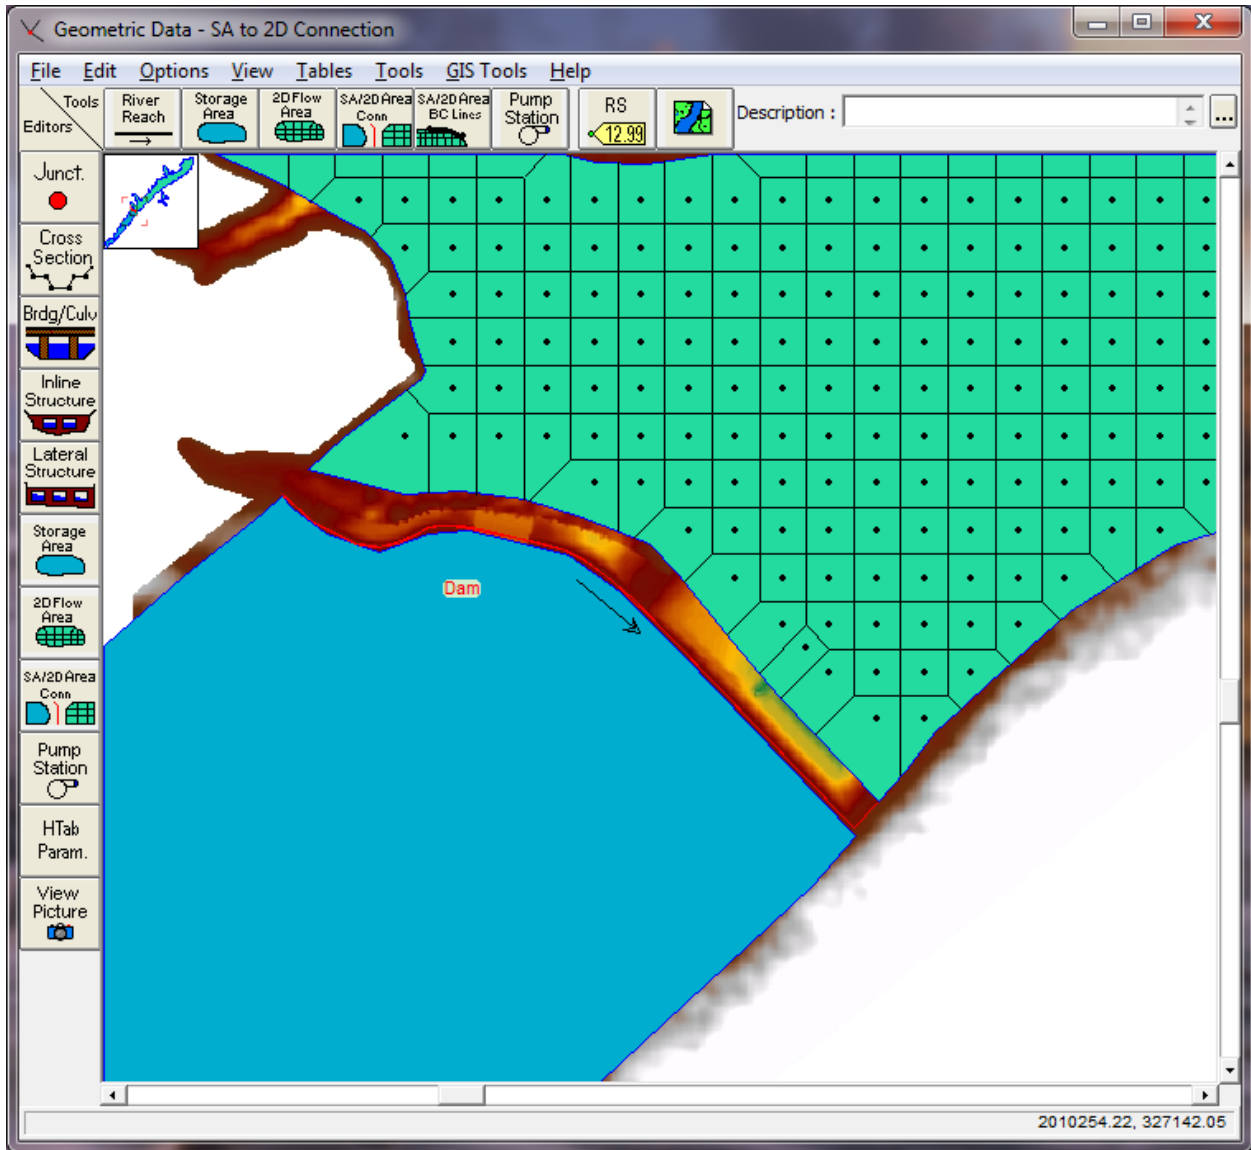

Figure 40. Example of a Storage Area connected to a 2D Flow Area.
A 2D Flow Area can be directly connected to Storage Area by using a hydraulic structure called a Storage Area/ 2D Flow Area Hydraulic Connector (“SA/2D Area Conn”). See the example below in Figure 40 below.
In the example shown in Figure 40, the Storage Area is upstream of the 2D Flow Area, so the positive flow direction is from the storage area to the 2D Flow Area. Therefore, when defining the hydraulic structure that connects the two areas, the Storage Area will be considered the
- Select the Drawing tool at the top of the Geometric editor labeled "SA/2D Area Conn". Then draw a line directly down the center of the hydraulic structure that will be used to connect the two flow areas. The interface will ask you for a label to define the hydraulic structure. See the red line shown in Figure 40.
- Next, select the Drawing tool at the top of the Geometric editor labeled “**SA/2D Area Conn**”. Then draw a line directly down the center of the hydraulic structure along the cell faces that represent the structure (this line should be drawn from left to right, while looking from what is considered to be upstream to downstream. This is how the program figures out what is considered to be the headwater side and the tailwater side.). This line will be the hydraulic structure that will be used to connect the 2D Flow Areas cells on one side of it to the other side of it. The interface will ask you for a label to define the name of the hydraulic structure. See the black line in Figure 40.